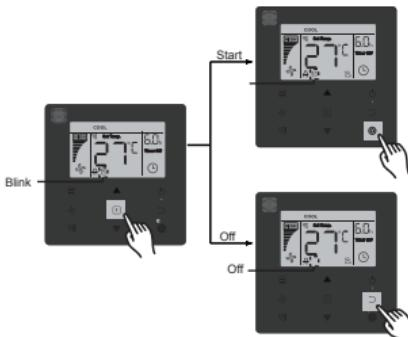

Figure 6.13
- Turn on/off the "Silent" function: press (Function) button to switch to the "Silent" function ("" blinks), and press (Confirm) button to turn on the function or (Cancel) button to turn off the function (see Figure 6.13).